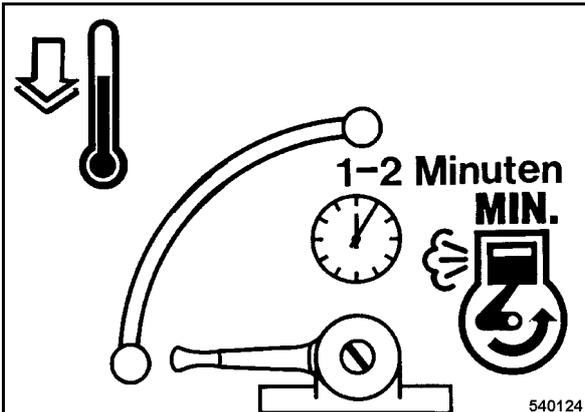

Fig. 24
- Set the throttle lever (Fig. 24) to position MIN.